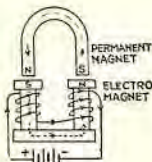

Fig. 9
The difference between a permanent magnet and an electro-magnet is shown in Fig. 9. Note in this instance that the electro-magnet is being used to induce magnetism into a permanent steel magnet. Note that the flow of magnetic lines-of-force is out (N) pole into (S) pole. The permanent magnet of hard steel will retain its induced magnetism, whereas the soft-iron core of the electro-magnet will lose its magnetism when the electric current flow is open. This is an important point to remember in connection with the principle of the action of a coil.